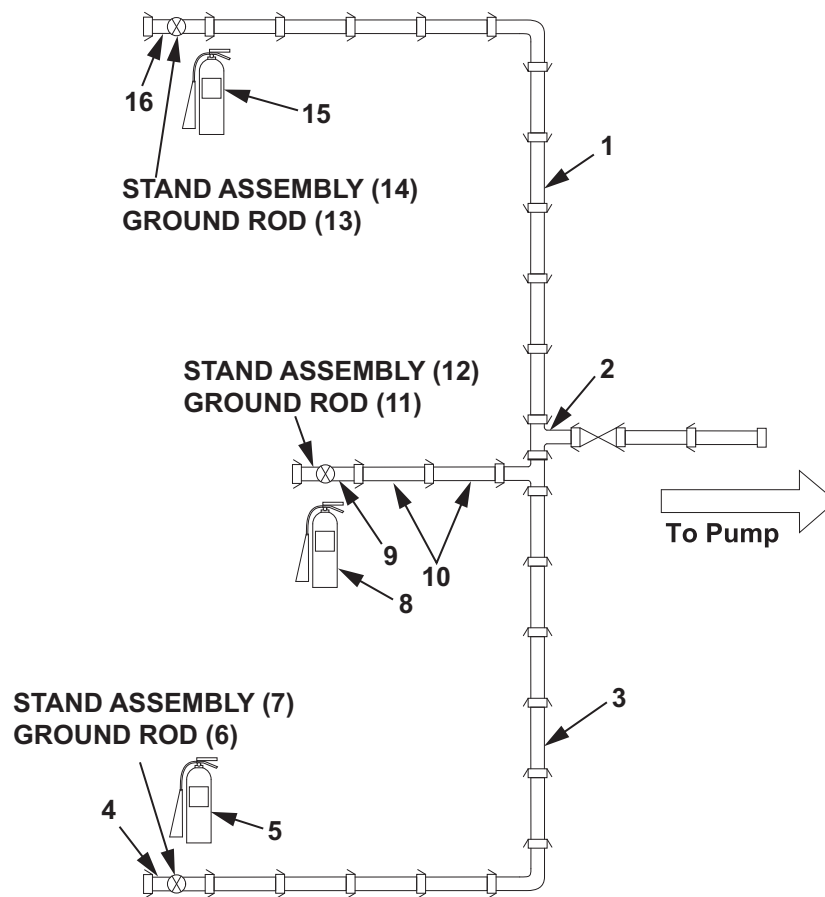

Figure 20. Installation of FSSP Components in Receipt Area.
2. Connect the 10 sections of 4 in. X 10 ft suction hose (Figure 20, Item 1) towards one of the side receiving points on the female X female X male double tee (Figure 20, Item 2).
4. Install the butterfly valve (Figure 20, Item 16) on the end of the 10 sections of 4 in. X 10 ft suction hose (Figure 20, Item 1).
5. Position the stand assembly (Figure 20, Item 14) and fire extinguisher (Figure 20, Item 15) adjacent to the butterfly valve (Figure 20, Item 16).
6. Install the ground rod (Figure 20, Item 13) adjacent to the stand assembly (Figure 20, Item 14) per FM 10-67-1.
8. Connect the two sections of 4 in. X 10 ft suction hose (Figure 20, Item 10) to the center of the female X female X male double tee (Figure 20, Item 2).
10. Install the butterfly valve (Figure 20, Item 9) on the end of the two sections of 4 in. X 10 ft suction hose (Figure 20, Item 10).
11. Position the stand assembly (Figure 20, Item 12) and fire extinguisher (Figure 20, Item 8) adjacent to the butterfly valve (Figure 20, Item 9).
12. Install the ground rod (Figure 20, Item 11) adjacent to the stand assembly (Figure 20, Item 12) per FM 10-67-1.
14. Connect the 10 sections of 4 in. X 10 ft suction hose (Figure 20, Item 3) towards the receiving point on the remaining side of the female X female X male double tee (Figure 20, Item 2).
16. Install the butterfly valve (Figure 20, Item 4) on the end of the 10 sections of 4 in. X 10 ft suction hose (Figure 20, Item 3).
17. Position the stand assembly (Figure 20, Item 7) and fire extinguisher (Figure 20, Item 5) adjacent to the butterfly valve (Figure 20, Item 4).
18. Install the ground rod (Figure 20, Item 6) adjacent to the stand assembly (Figure 20, Item 7) per FM 10-67-1.